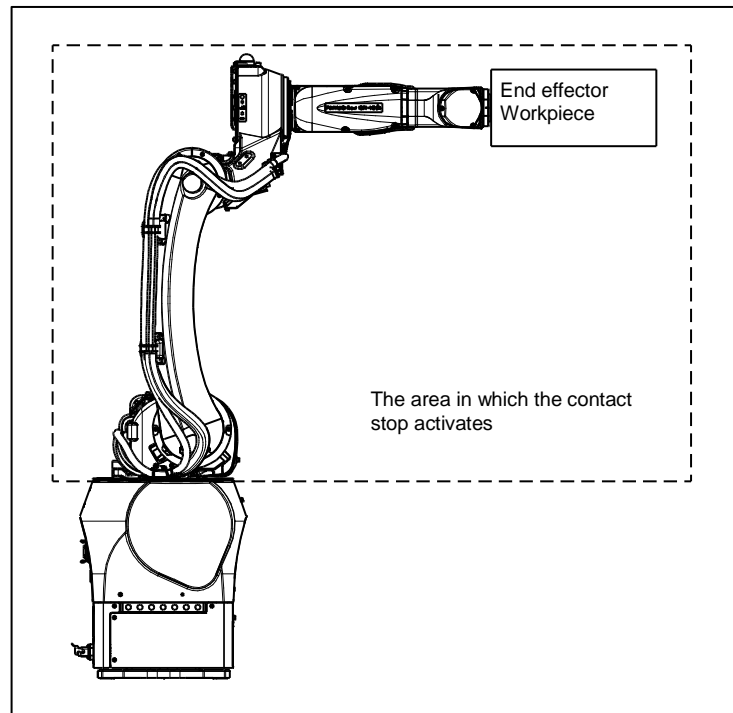

Fig 3.6 (a) Contact stop parts of robot
- When a person contacts to the parts of robot showed in Fig. 3.6, the robot doesn't stop.